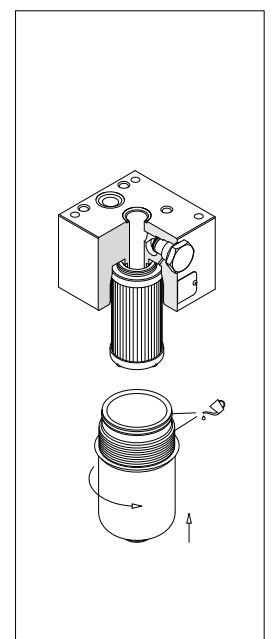

fig. 5
- (Fig. 5) Lubricate the thread and the O-ring of the bowl, then screw the bowl in referring to the tightening torque table in paragraph 3.